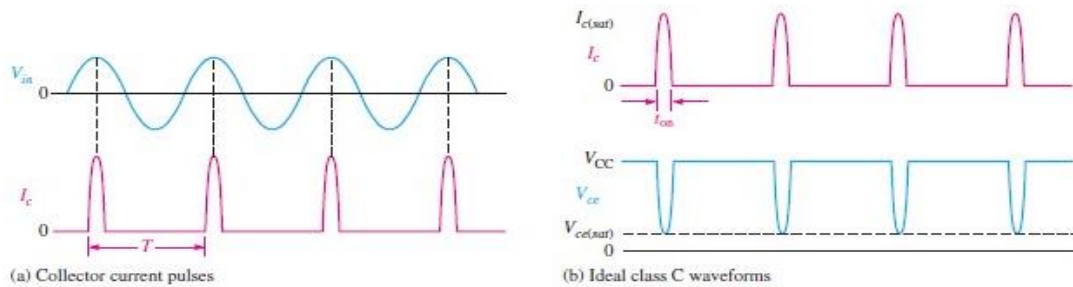

Fig. 3 : Class C waveforms.
The power dissipation of the transistor in a class C amplifier is low because it is on for only a small percentage of the input cycle. Figure 3(a) shows the collector current pulses. The time between the pulses is the period (T) of the ac input voltage. The collector current and the collector voltage during the *on* time of the transistor are shown in Figure 3(b). To avoid complex mathematics, we will assume ideal pulse approximations. Using this simplification, if the output swings over the entire load, the maximum current amplitude is $I_{C(sat)}$ and the minimum voltage amplitude is $V_{ce(sat)}$ during the time the transistor is on. The power dissipation during the *on* time is, therefore,